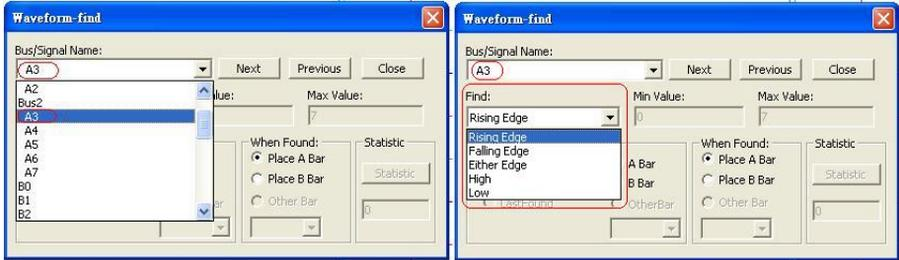

Fig 3-75: Waveform-find Dialogue of the Logic Signal
- Step 3.** Choose which attribute to find. The list of attributes depend on whether it is a Bus or Signal or the special protocol bus such as IIC/ UART/ SPI...etc that is being searched in, see Figs 3-75, 3-76, 3-77, 3-78, 3-79, 3-80, 3-81 and 3-82.